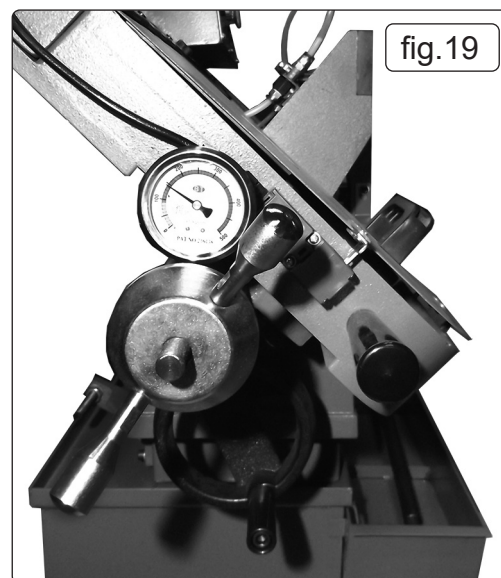

fig.19
8.6.4. Hold the blade in position and apply tension. Blade tension generally must be set at 25000 psi for hard back blades, and 35000 psi for bi-metal blades. Use tension scale (fig.19).